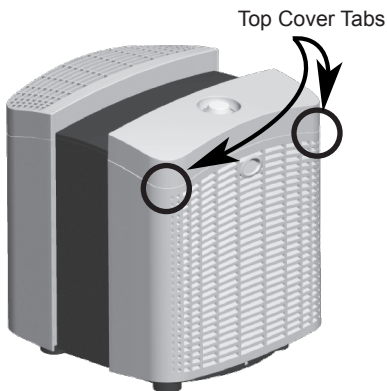
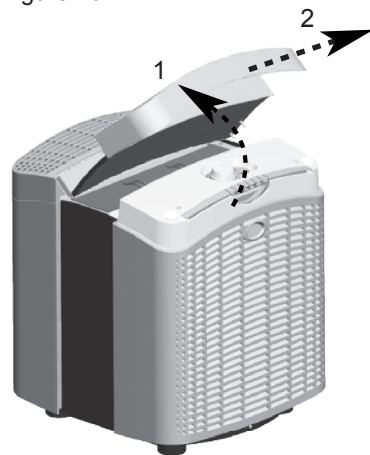

Fig. 4a - Top Cover Tabs
Fig. 4b - Removing the Top Cover
2. Remove the Top Cover. Place your fingers under the Top Cover Tabs on the Top Cover's front corners. See Figure 4a. Lift the front of the Top Cover, then pull it toward the front of the unit. See Figure 4b.